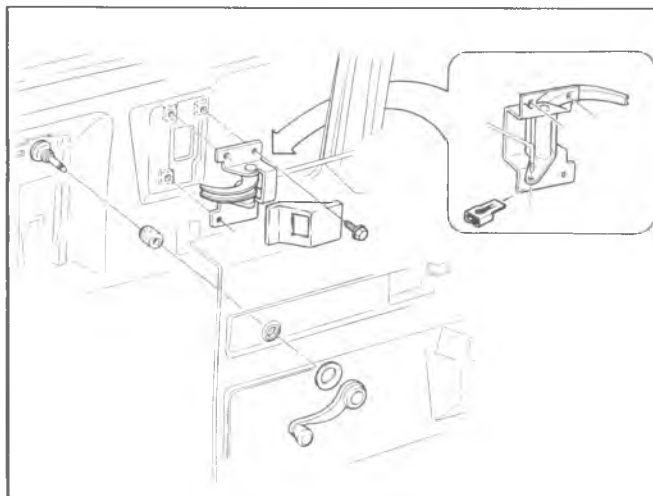

Fig. 34—Inside Handle
2. Disconnect control rod from inside handle, as shown in figure 34.